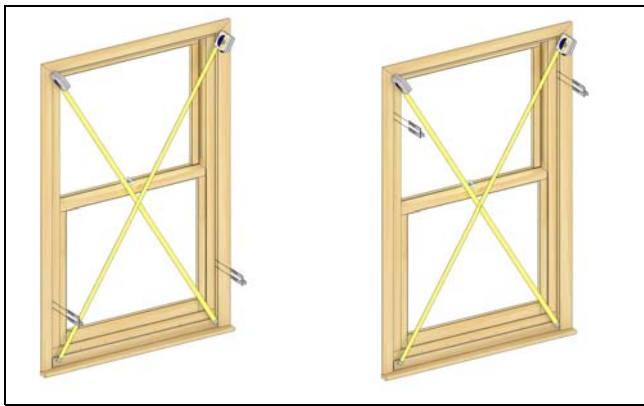

Figure 15
6. Square frame by taking diagonal measurements. Measurements should be equal. Adjust shims as necessary to obtain frame squareness. See Figure 15.